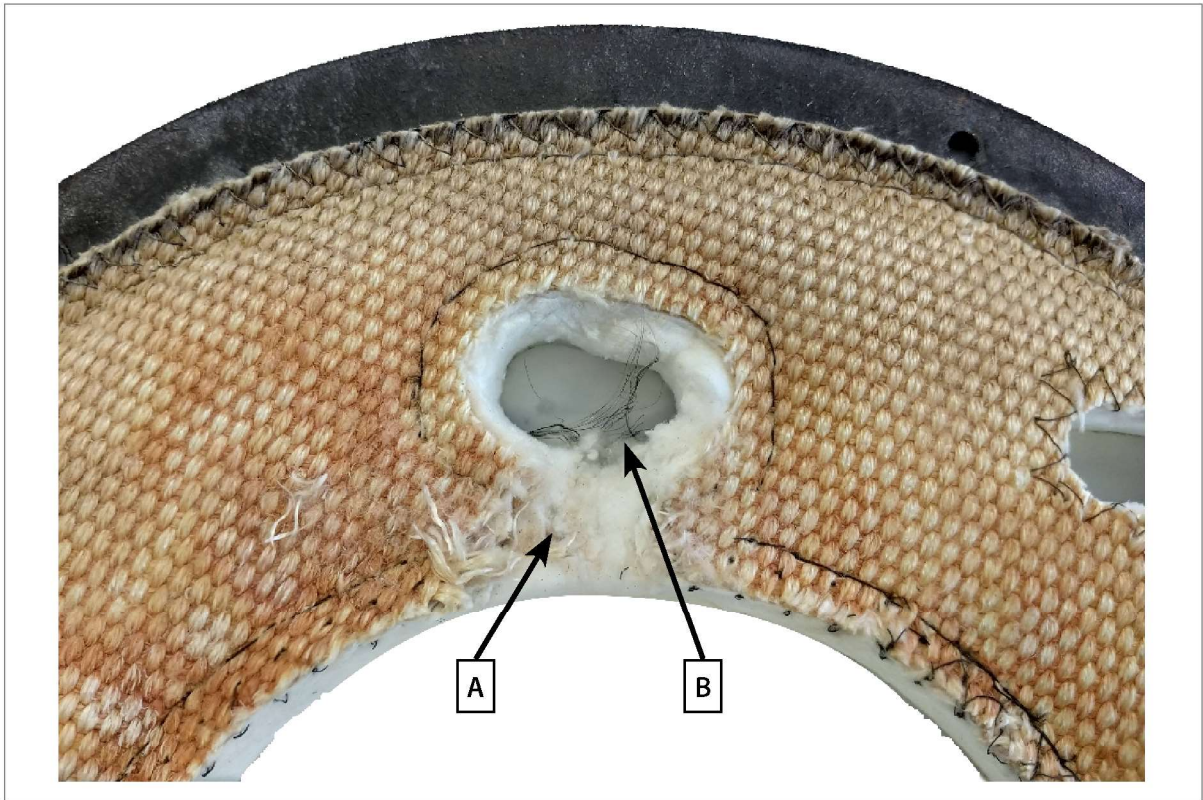

Fig. 15 - Prestige Solo & Excellence - Combustion chamber 2-in-1 Insulation Damages
2. **Should hard ignition still occur**, please check the condition of the combustion chamber 2-in-1 insulation. Refer to the Installation Manual of your appliance for the correct removal procedure. (See Fig. 15 and refer to following step).
- There are released stitches around the igniter location hole (See Fig. 15, Detail B).